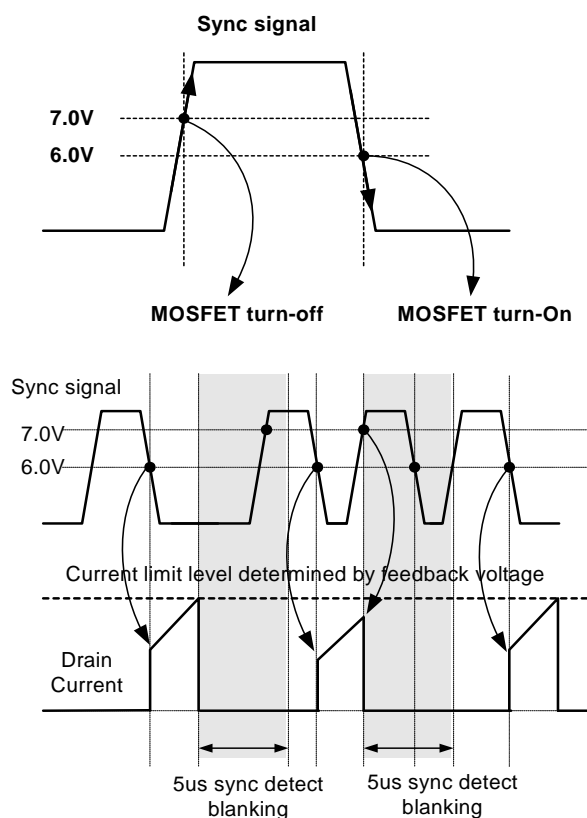

Figure 9. Synchronization Operation
**4. Synchronization :** Since the FSES0765RG is designed for CRT Monitor applications, this device has a synchronization function to minimize the screen noise. The MOSFET is turned on being synchronized to the external synchronization signal as shown in figure 9. In order to reduce voltage stress on the secondary side rectifier, a double pulse prevention function is included as well. The MOSFET's turn-on is inhibited for 5us after the MOSFET is turned off in order to eliminate a double pulse situation.